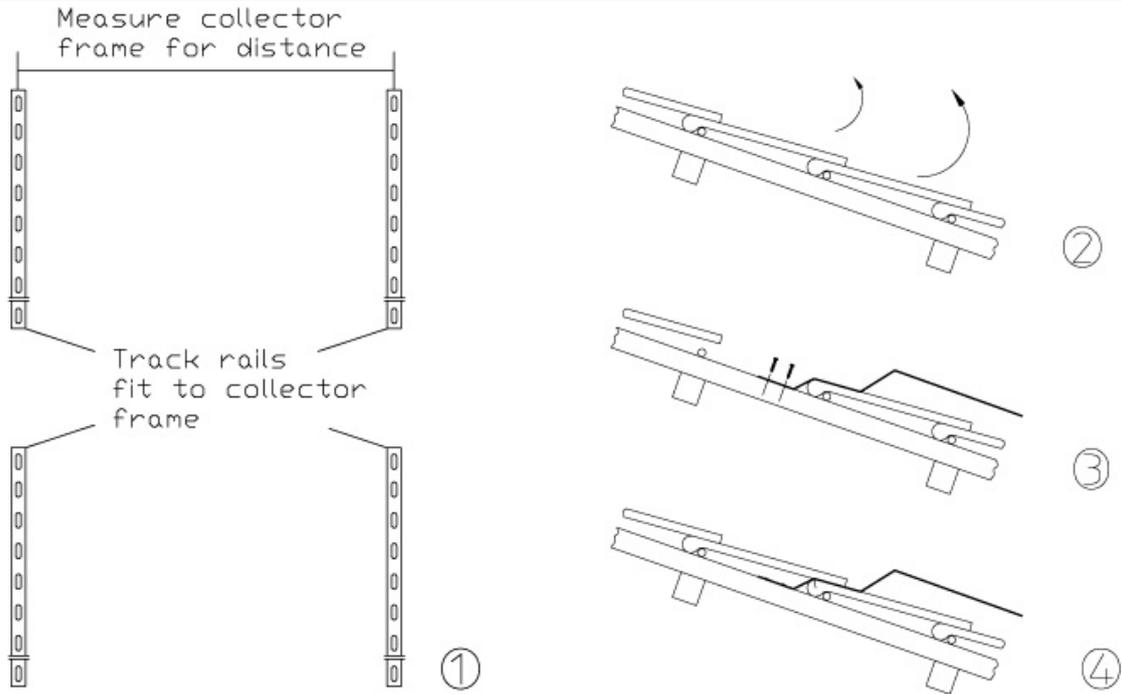

Fig 3.10
- Bend the mounting straps according to the height of the tiles and the location of the long-round hole on the vertical straps. Bend the mounting straps through the gap of two tiles, and secure it to the roof supports using the screws. Secure all remaining all mounting straps in this way. After that, put solar collector on the roof and adjust the location so that you can fix vertical bar to the bent mounting straps using screws. Bolt the solar collector vertical bar frame to the mounting straps. (See Fig 3.10~3.13).